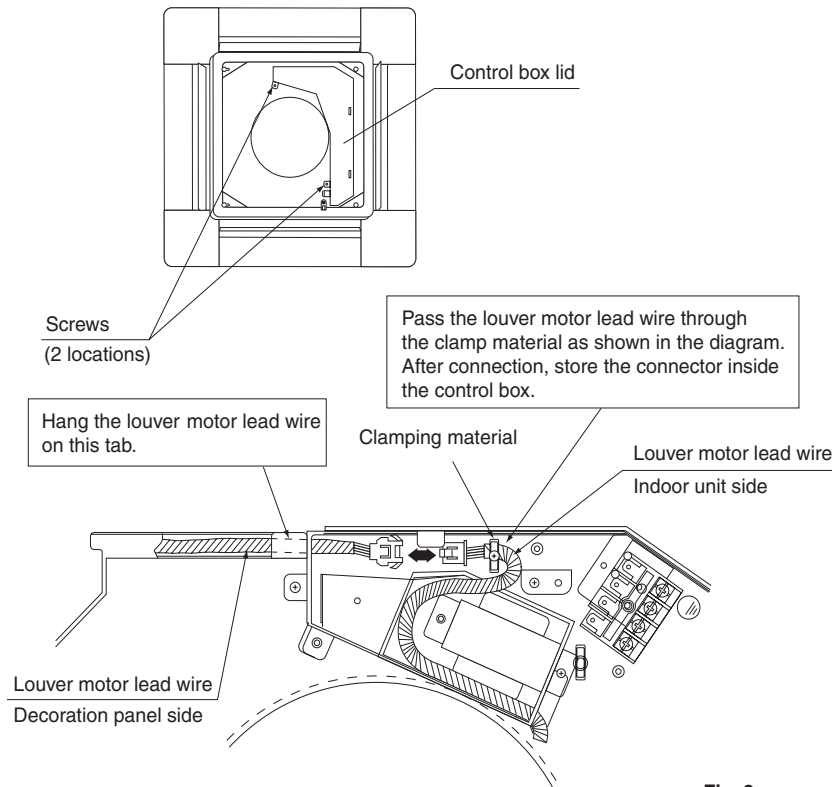

Fig. 8
(3) Wiring of the decoration panel (Refer to Fig. 8)